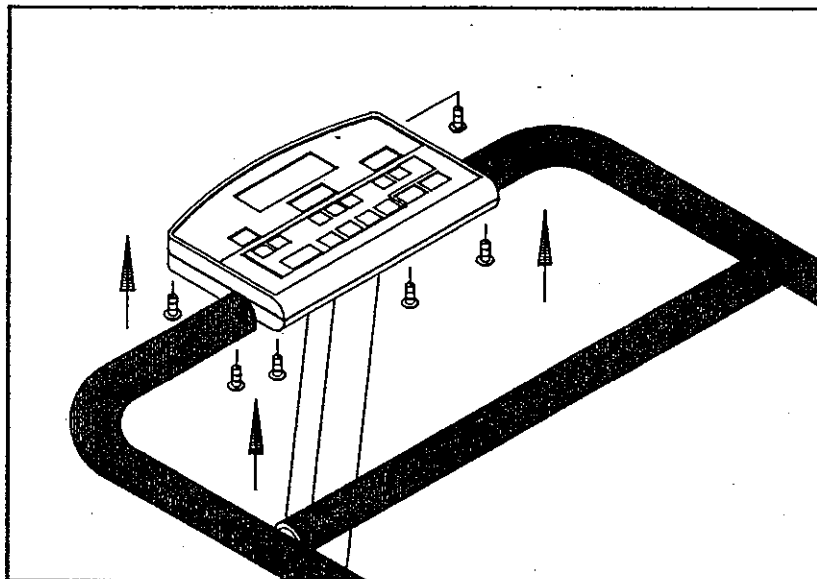

Fig. 4
2. Tighten the six screws securely (see Fig. 4).